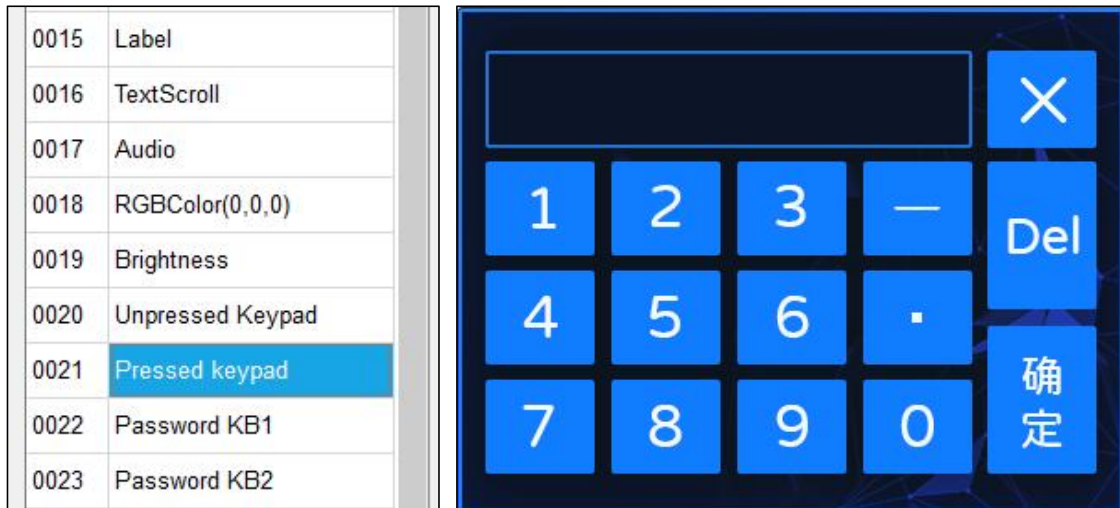

Figure 6-15: Add Keyboard Picture (pressed state)
- pressPage** : When the key is pressed, the corresponding location of the designated page, as Figure 6-15, will be shown.